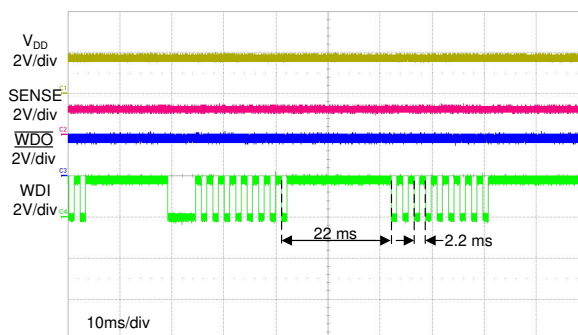

Figure 8-10. Window Watchdog Timing
In this application, the window watchdog timing options are based on the PWM signal that is provided to the TPS3850. A window watchdog setting must be chosen such that the falling edge of the PWM signal always falls within the window. A nominal window must be designed with $t_{WDL(\text{max})}$ less than 5 ms and $t_{WDU(\text{min})}$ greater than 5 ms. There are several options that satisfy this window option. An external capacitor can be placed on the CWD pin and calculated to have a sufficient window. Another option is to use one of the factory-programmed timing options. An additional advantage of choosing one of the factory-programmed options is the ability to reduce the number of components required, thus reducing overall BOM cost. Leaving the CWD pin unconnected (NC) with SET0 = 0 and SET1 = 1 produces a $t_{WDL(\text{max})}$ of 2.22 ms and a $t_{WDU(\text{min})}$ of 23.375 ms; see Figure 8-10.